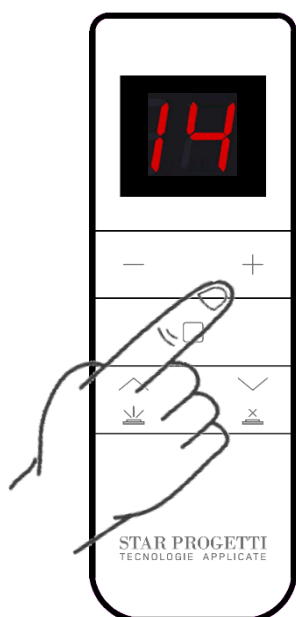

Fig.15
- By using the "+" and "-" buttons select channel 14 Fig.15 and immediately after press the button as shown in Fig. 16